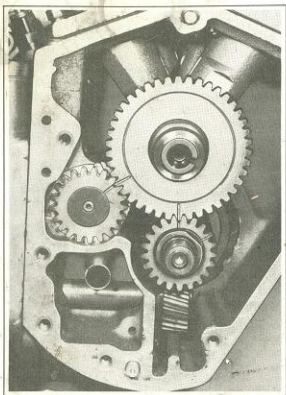

Figure 3-33. Timing Gears with Timing Marks Aligned
3. Make final gearcase assembly including all parts in approximate reverse of disassembly order. Make sure that chamfer on oil pump pinion shaft gear (28) is toward the inside. Tighten pinion gear shaft nut (24, Figure 3-29) to 35-45 ft-lbs and check to see that gearshaft pinion spacer has noticeable end play. Breather, cam and pinion gears contain timing marks which must be aligned or matched as shown in Figure 3-33. Rotate gear train and note if it revolves freely. A bind indicates gears are meshed too tightly.